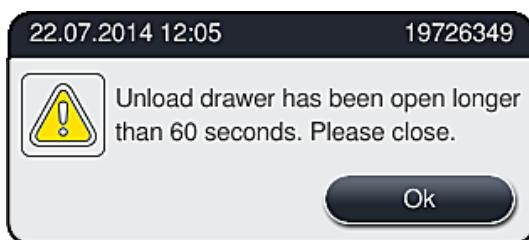

Fig. 88
- The user receives a message (→ "Fig. 88") if the output drawer is open for longer than 60 seconds.